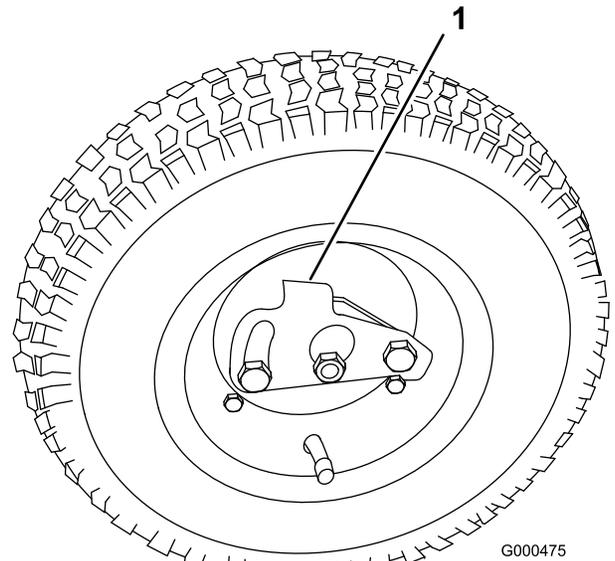

Figure 13
2. Press wheel locking clip toward the center of wheel and slide wheel onto hex shaft (Figure 13).